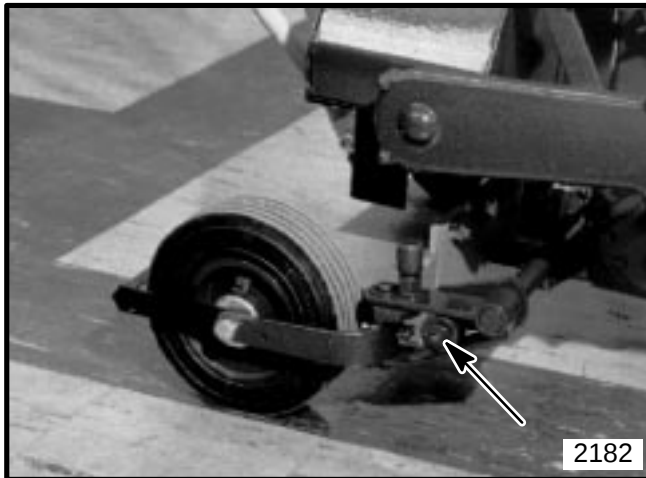

FIGURE 13
1. After setting depth gauge for desired thickness of sod, loosen rear wheels so they can be moved up and down. Adjust wheels so the cut-off blade will completely separate the sod without taking more of a cutting stroke than needed. See Figure 13.